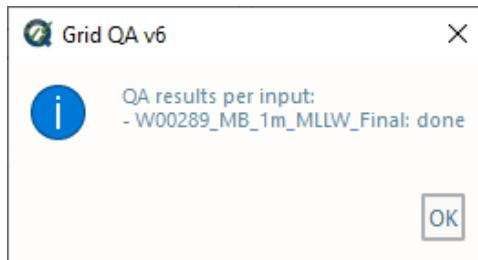

Fig. 2.26: The output message at the end of **Grid QA v5** execution.
- After computing, the output window opens automatically, and the results are shown (Fig. 2.26).